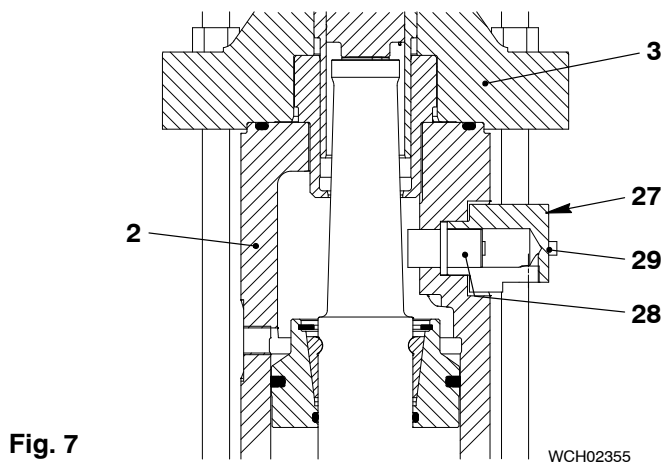

Fig. 7
- The valve stroke sensor (28, Fig. 7).
- The transmitter housing (27).
- The bore and collar in the housing (3).
- 2) Attach the transmitter housing (27) to the bottom housing (2) with the two screws (29).
- 3) Connect the electrical connection to the valve stroke sensor (28).